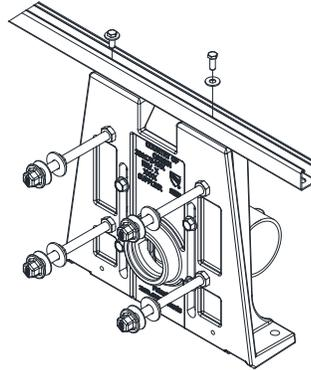

Figure 16
2. Using 3/8-16 [10] bolts and 3/8 [10] washers with a minimum OD of 31/32 [25] found in hardware bag 669553869, secure the strut channel with one bolt to each of the shoulders. Secure bolts using a torque wrench (15-20 lb-ft of torque). See Figure 16.